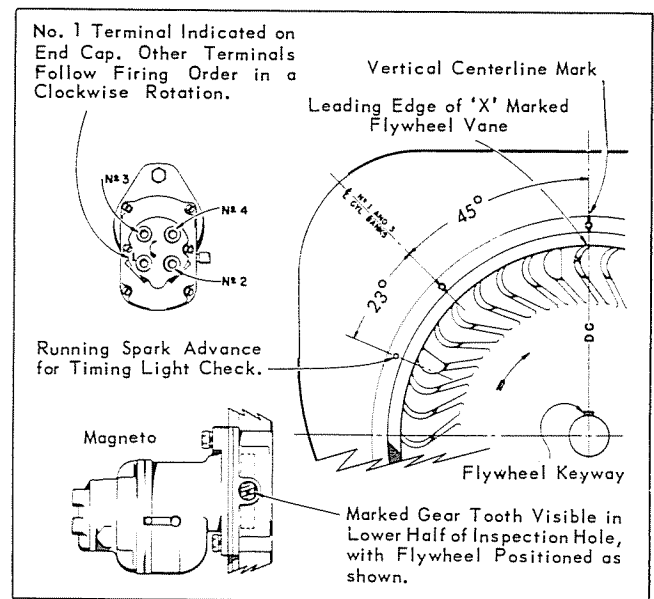

Fig. 10
3. With No. 1 piston on compression stroke turn engine over past top dead center, until the *leading edge* of the 'X' marked vane on the flywheel is in line with the *vertical centerline mark* on the shroud, as shown in Fig. 10. Leave flywheel in this position (flywheel keyway will be on top).
hole in gear cover. See *Magneto Timing Diagram, Fig. 10*. Securely tighten nut and capscrew for mounting magneto.
The running spark advance is 23°. To check timing with a *neon light*, the advance is indicated by a hole on the flywheel shroud, 23° before *centerline* of the No. 1 and 3 cylinders. See Fig. 10.